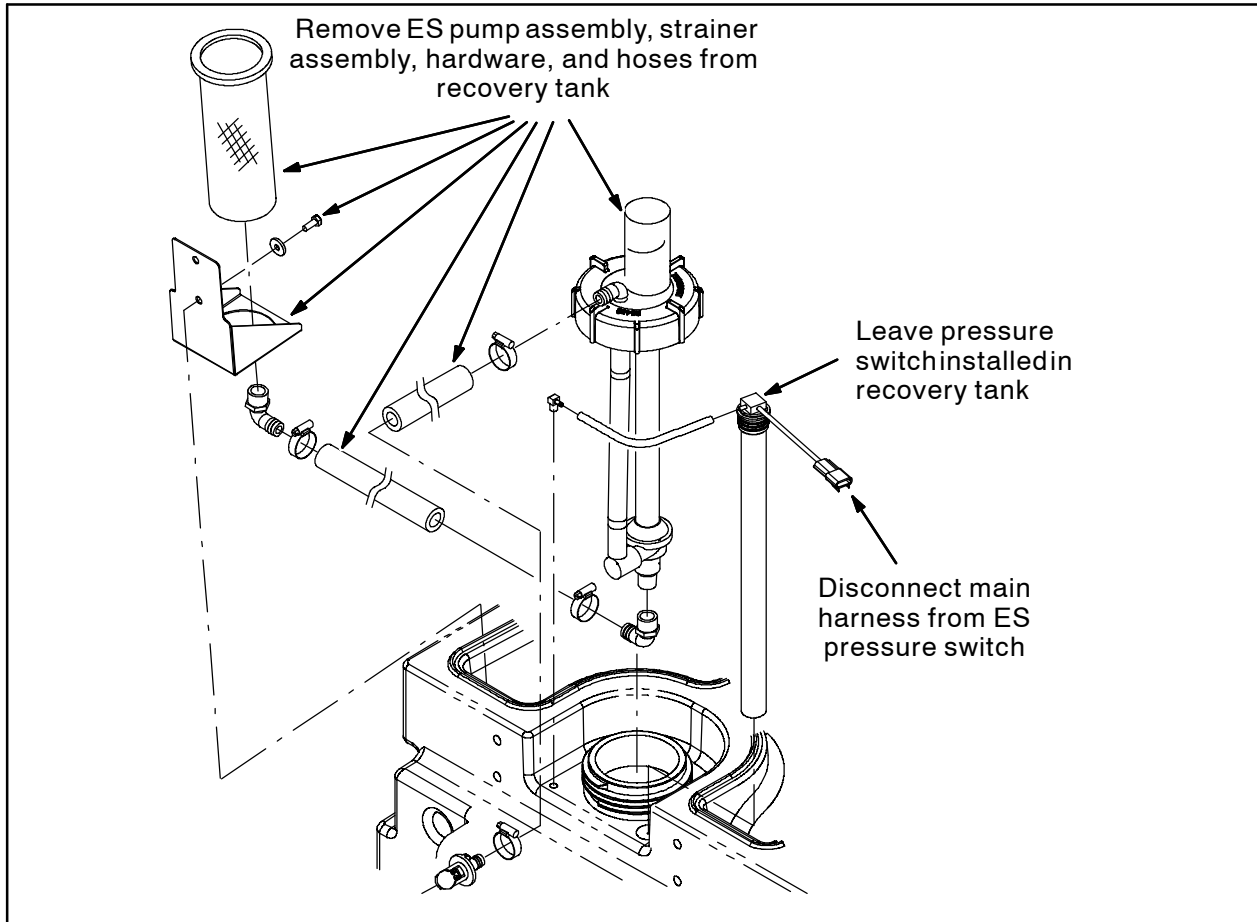

FIG. 1
1. Disconnect the main wire harness and all hoses from the ES pump assembly and pressure switch inside the recovery tank. Refer to Fig. 1.
2. Remove the ES pump assembly, strainer assembly, and interconnected hoses from the recovery tank. Discard the removed ES components. Refer to Fig. 1.